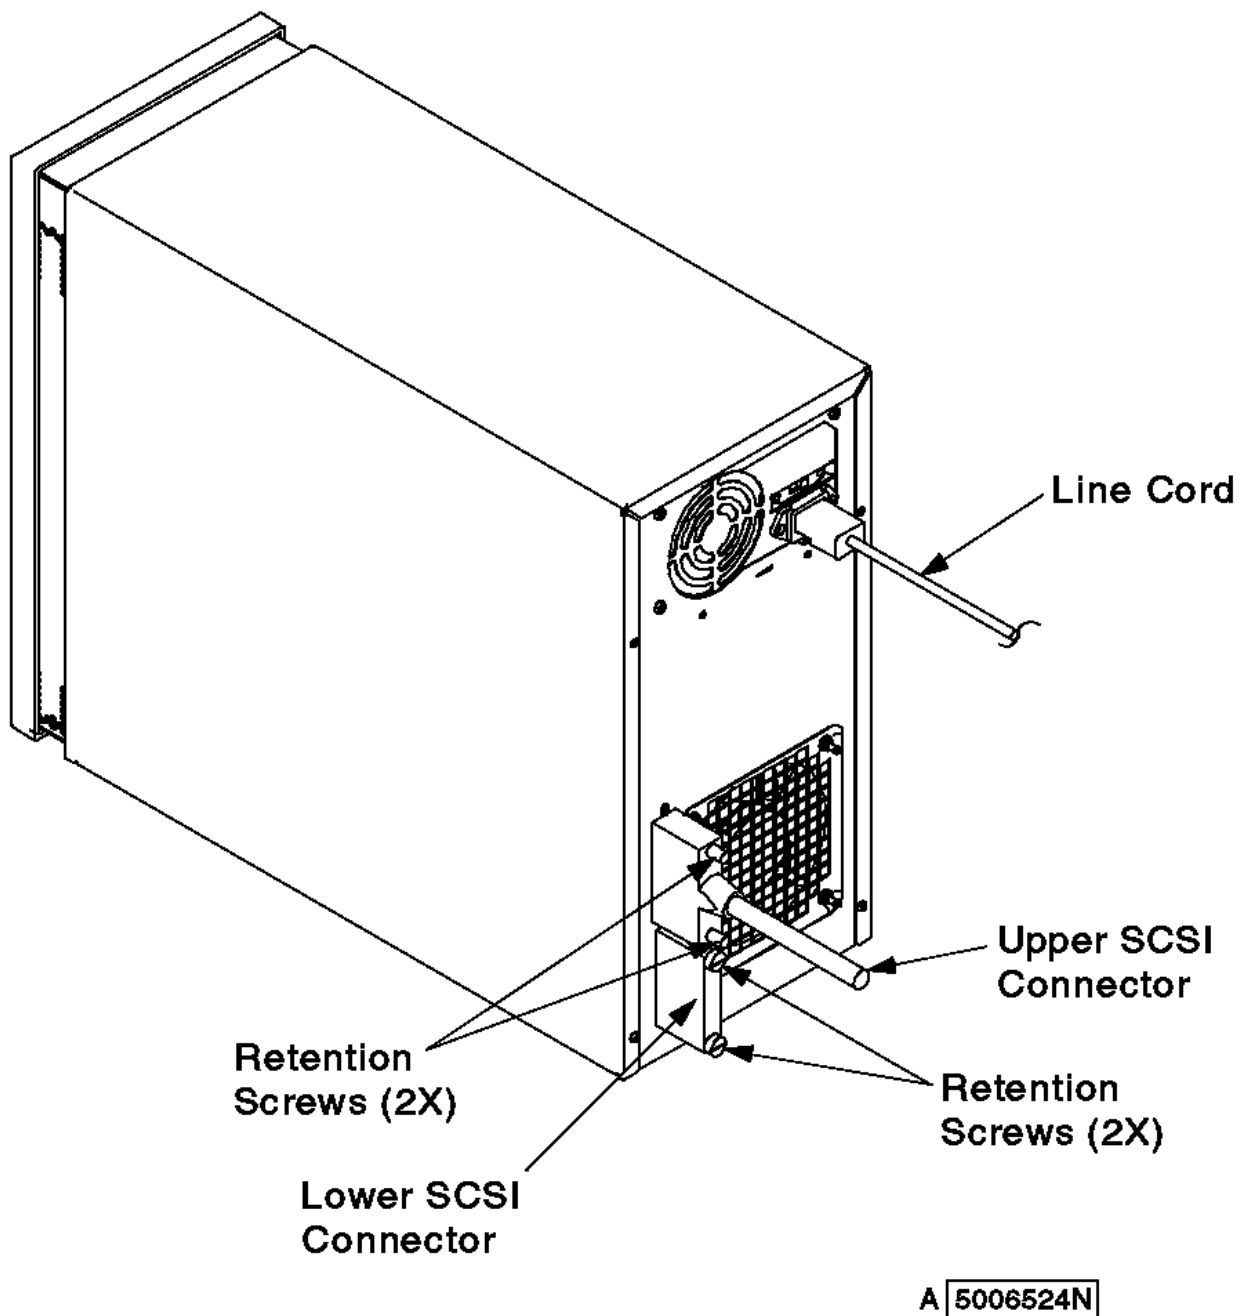

Figure 5-15. Rear View of the 7131 Storage Tower with Upper and Lower SCSI Connectors
8. Connect the tower-to-tower SCSI cable to the first 7131 Storage Tower, in the lower SCSI connector (see Figure 5-15).
9. Connect the system SCSI cable to the first 7131 Storage Tower, in the upper SCSI connector (see Figure 5-15).